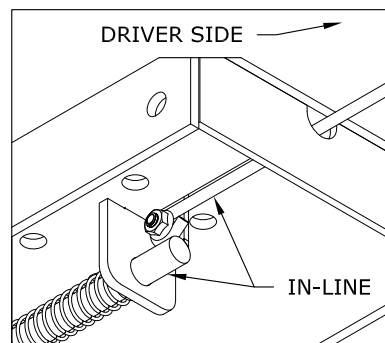

Figure E1: Center Section
1. Install the latch pin release handle by inserting it through the slot in the end of the center section on the driver side of the truck. Align the handle eyelet with the square hole in the latch pin so the handle is in line with the latch as shown in Figure E1.